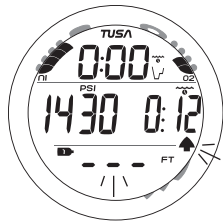

Fig. 86 - DV3 MAIN
**DV3 Main**, information includes (Fig. 86) -